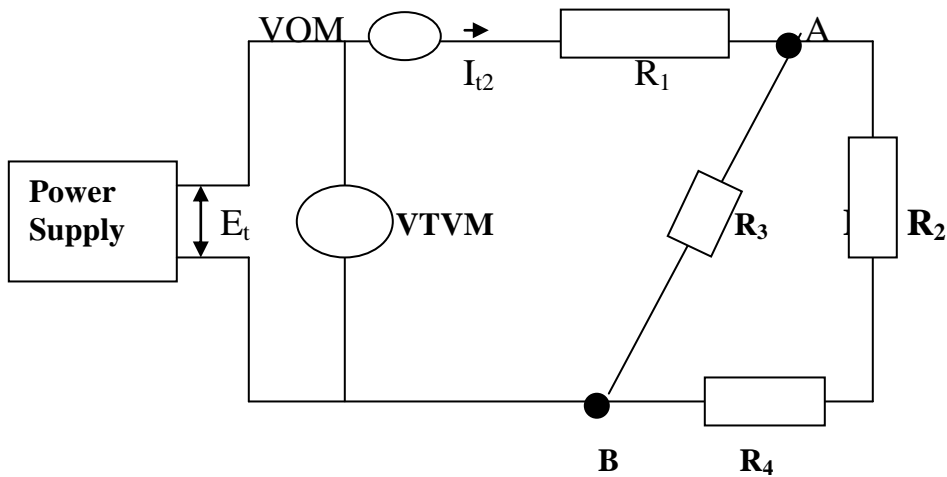

Figure 2
3.3 Change to the circuit in Fig. 2. (The VOM changes place)